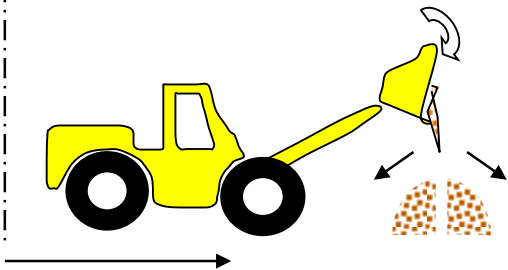

Figure 12
10. As the material is dumped, the loader operator must pull forward to keep the material falling over the center of the pile. (See Fig. 12)